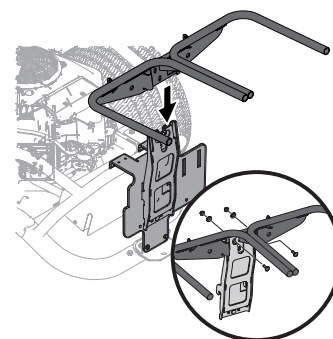

Figure 8
- Install and secure the hanger assembly onto the upright support bracket using two carriage bolts (710-0276), two cup washers (736-0242) and two flange lock nuts (712-04063) from hardware pack 689-01419. See Figure 8.